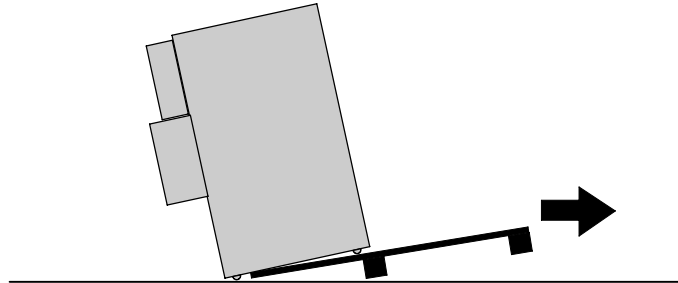

Figure 5. Removing the Pallet
6. With the UPS supported, slowly pull the pallet away from the UPS (see Figure 5).